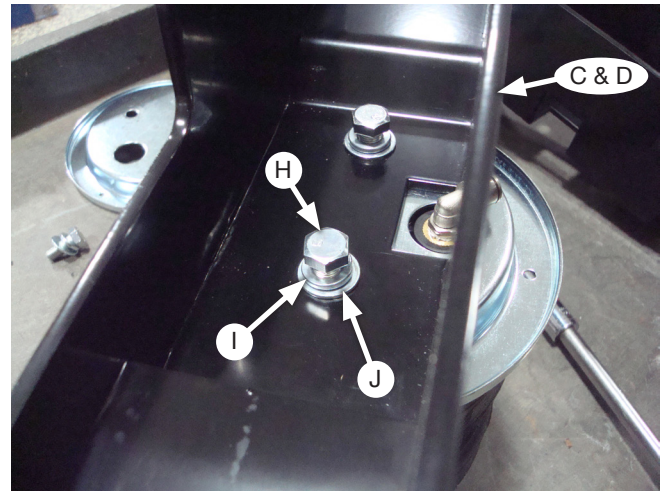

Fig. 12
3. Install the upper brackets (C & D) onto the air springs with 3/8" Hex screws (H), lock washers (I), and flat washers (J). Torque hardware to no more than 20 lb.-ft. (27Nm) (Fig. 12).